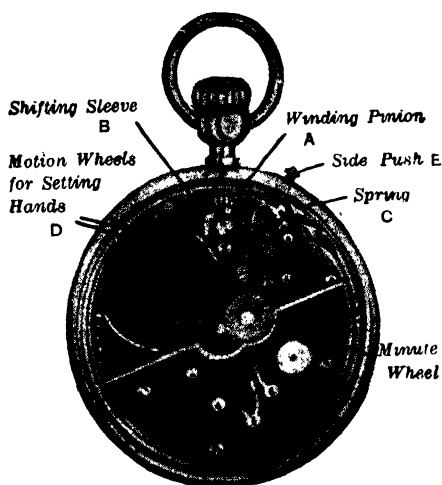
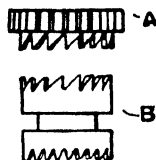
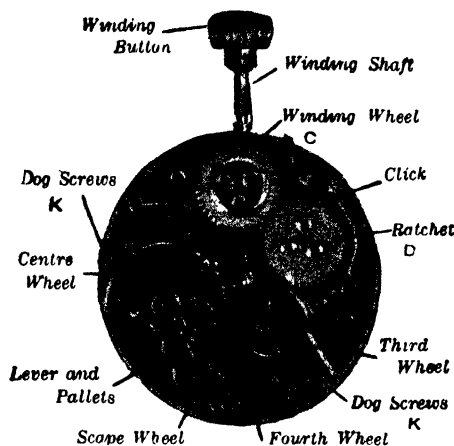

Fig. 51A.—Shifting Sleeve Keyless Watch
Fig. 52.—Winding Pinion and Shifting Sleeve of Keyless Watch
Fig. 53.—Back View of Shifting-sleeve Watch
**American Shifting-sleeve Keyless Work.**—Fig. 51A shows a shifting sleeve. The button, as before, is on the outer end of the winding shaft. The inner end is squared, and on it slides the shifting sleeve B. The ratchet teeth on B engage those on A, and while the spring C keeps B up to A, A is carried round by the winding shaft, and the watch is wound. When the side push E is forced in, the spring C carries the shifting sleeve B down the winding shaft until it is clear of A, and its lower teeth engage the motion wheels D, and the hands can be set.
Fig. 52 shows a detail of A and B, while Fig. 53 (a back view) shows the portion of the keyless winding work that is mounted on the barrel bar. It includes the main winding wheel C with which the winding pinion A (Fig. 51A) engages, the ratchet D and click and click spring, etc. The third, fourth, and escape cocks have been removed to show the train wheels and escapement more clearly. The lever is of the "straight line" type, in which the balance, lever, and escape wheel pivots are all in a straight line. The "dog"
screws that hold the movement in its case can be seen at K (Fig. 53).
sharply outwards throws the winding wheels out of gear and the hand-setting wheels into gear. This is effected in two principal ways. In the first, all the mechanism is in the watch movement, and the winding shaft goes right into the watch, like that in Fig. 51A. In the other the button is on a short-winding shaft, and is held by a spring-clip in the neck of the case.